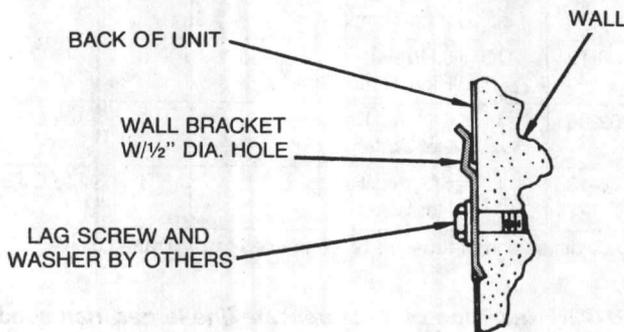

FIGURE 15 - Mounting Bracket Installation
1. For unit sizes 08 to 12, mark and prepare the mounting holes in the wall. For unit sizes 02 to 06, install the mounting bracket that is supplied with the unit, as shown in Figure 15. **NOTE:** The mounting bracket is found attached to the inside end panel either above or below the auxiliary drain pan. The bracket anchoring bolts should be selected according to wall construction and supplied by the installer.